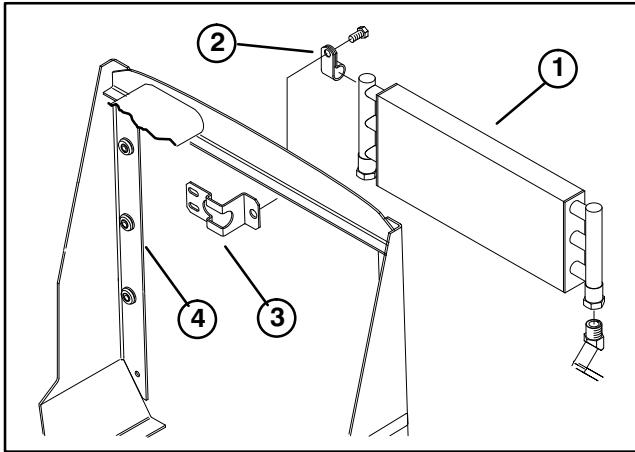

Figure 7
2. Remove (2) hair pin cotters and clevis pins securing hood brackets to hood pivot. Remove hood.
3. Remove (2) 3/8-16 x .75 lg. capscrews securing oil cooler R-clamps to mounting brackets (Fig. 7).
5. Remove capscrews securing oil cooler mounting brackets to radiator support braces (Fig. 7).